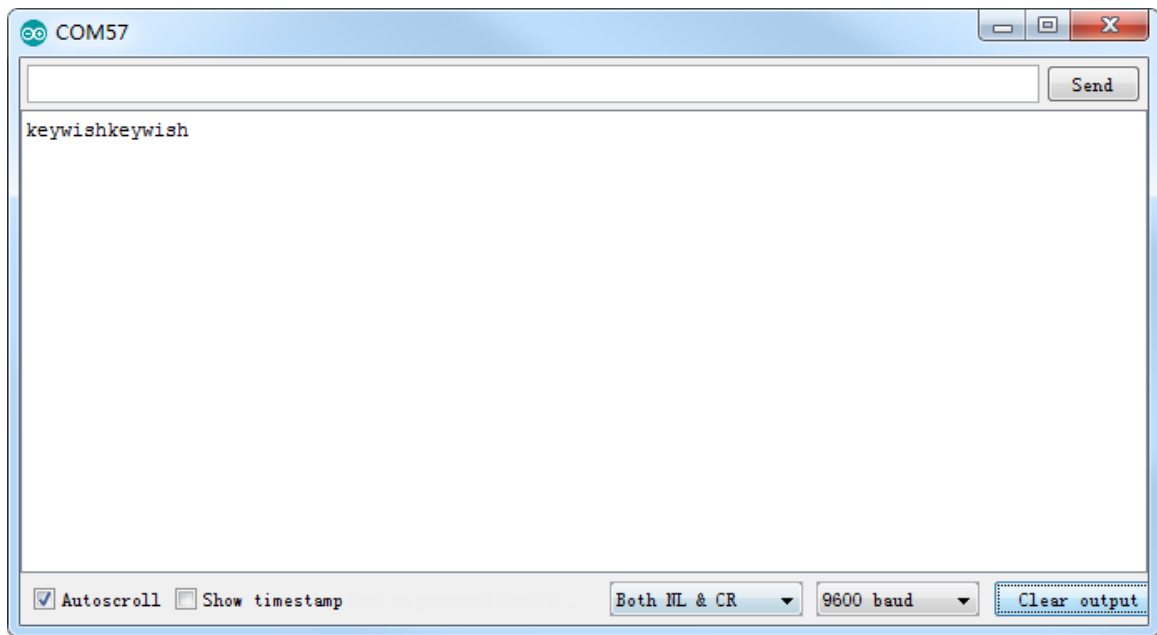

Figure 1.19
- 5) After clicking "send", we can see that the content sent by the mobile phone is printed on the serial port monitor, as shown in figure 1.19, indicating that the bluetooth module can normally send data. Of course, in order to test the accuracy more accurately, we can test it several times and try to test it in different environments.